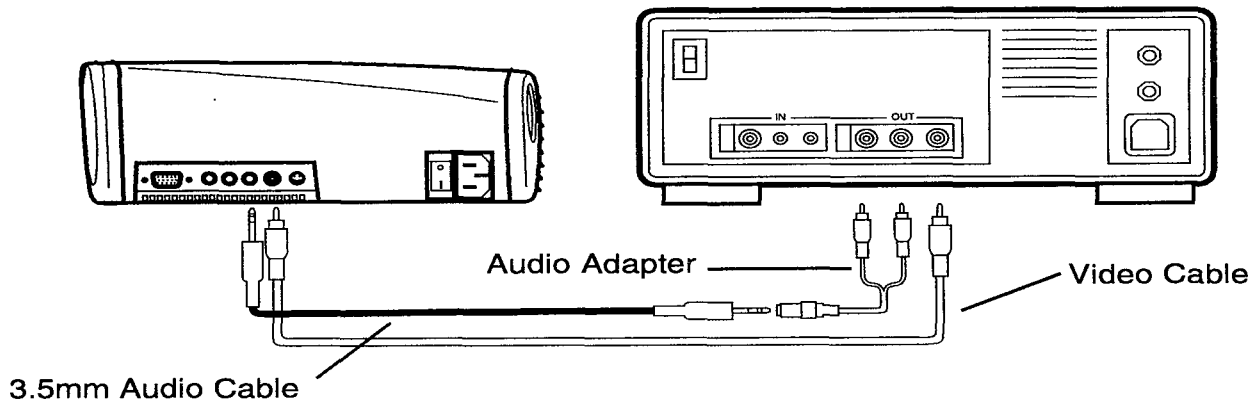

Figure 8: Connecting to a Video Player
2. Connect the other end of the composite video cable to the Video Input connector of the projector. see Figure 8.
2. Connect the other end of the 3.5 mm cable to the supplied 3.5mm to dual RCA adapter and connect the adapter to the video player Audio Output. see Figure 8.